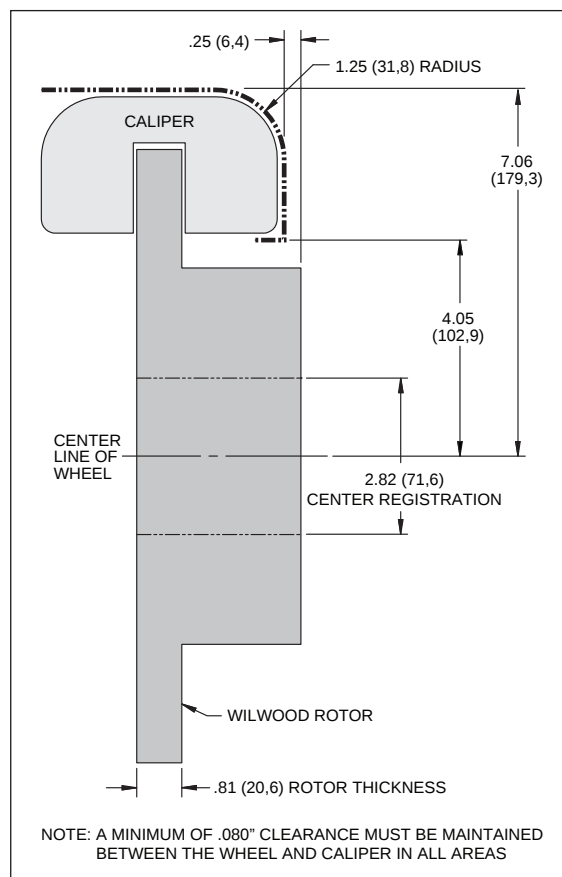

Figure 2. Wheel Clearance Diagram
- Review the Wheel Clearance Diagram (Figure 2, page 3) to verify that there is adequate clearance with the wheels you will be using with the installation.
• Verify your wheel clearance using Figure 2.
- Axle center register diameter is 2.82", Figure 2.